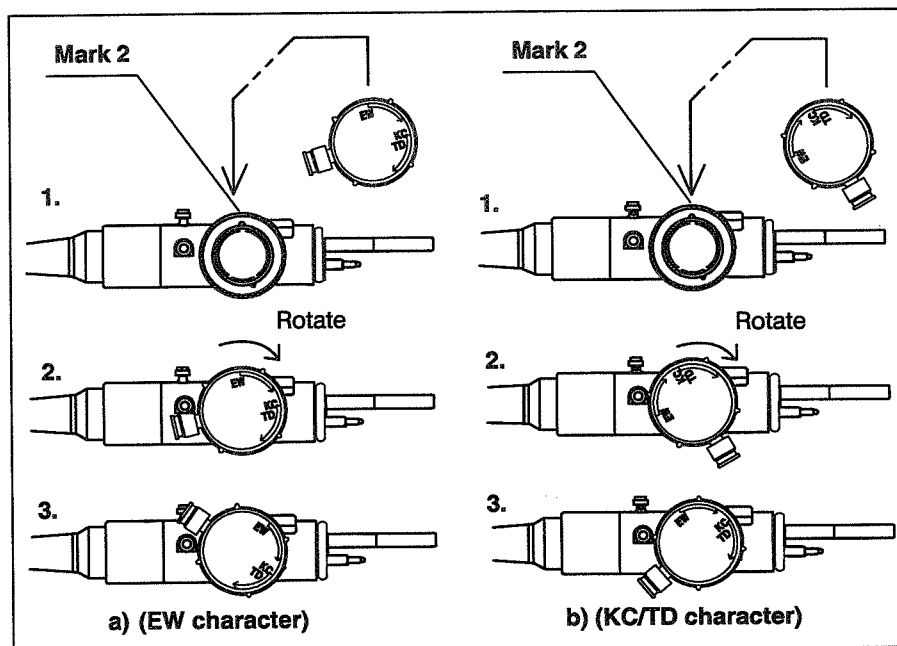

Figure 3.14
1. Align the EW character (see Figure 3.14 a) or KC/TD character (see Figure 3.14 b) on the water-resistant cap with mark 2 on the electrical connector housing.